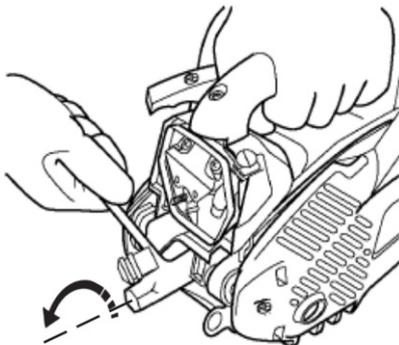

Fig.50
2) Remove the spark plug cap and unscrew the spark plug with the spark plug wrench supplied (fig.50).